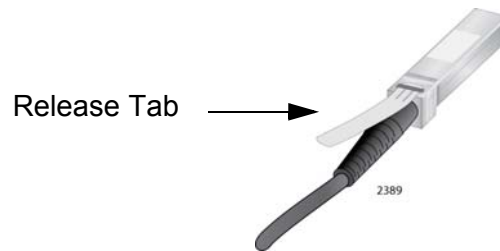

Figure 101. Release Tab on the AT-SBx31XS6 Line Card
2. Orient the connector on the AT-SP10TW cable so that the release tab is on top, as shown in Figure 101.